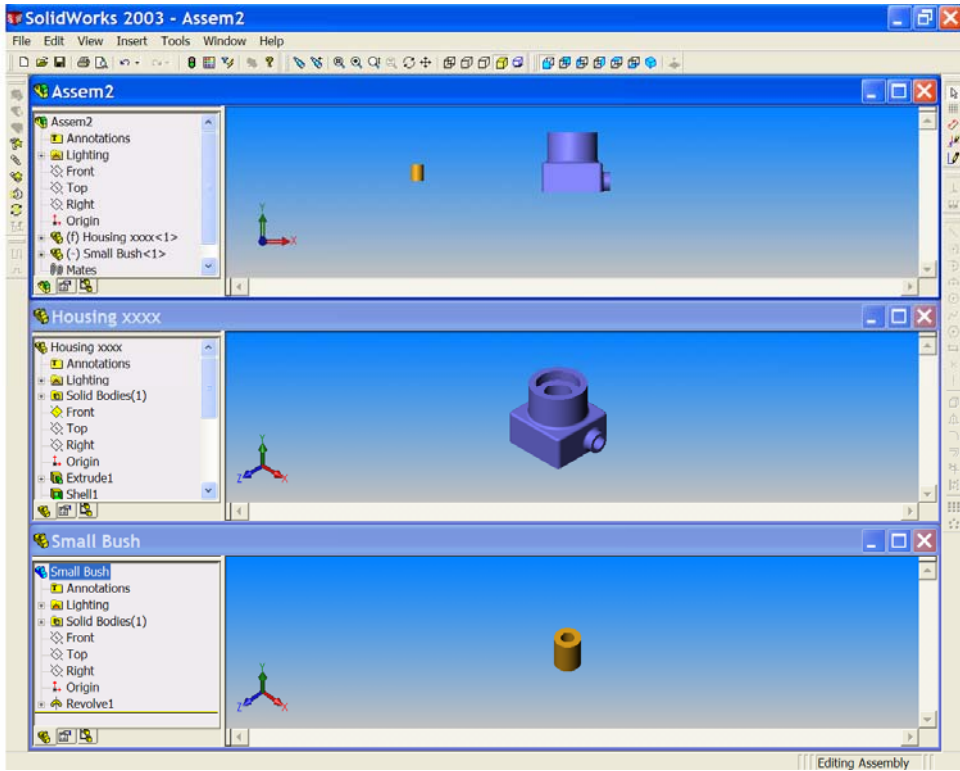

Figure 5
4. Drag the '**small bush icon**' from the top of its **FEATURE MANAGER DESIGN TREE** window, and drop it in the **GRAPHICS AREA** of the assembly window close to the Housing. See Figure 5.